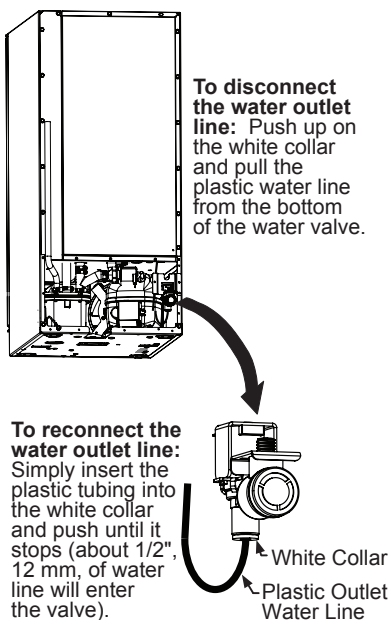

Figure 4
7. Disconnect the water valve's outlet water line to the reservoir and drain the remaining water left in the water line trap area (Figure 4).
8. Reconnect the water valve outlet water line (Figure 4).